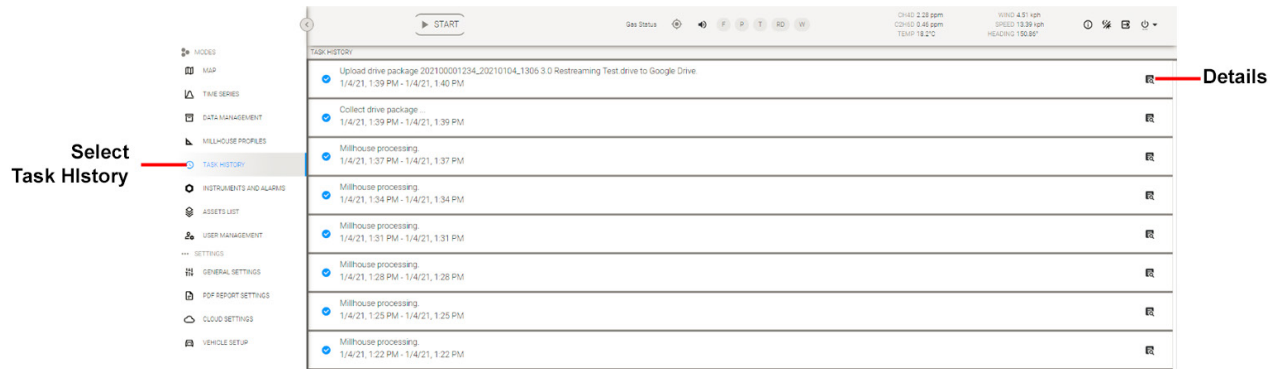
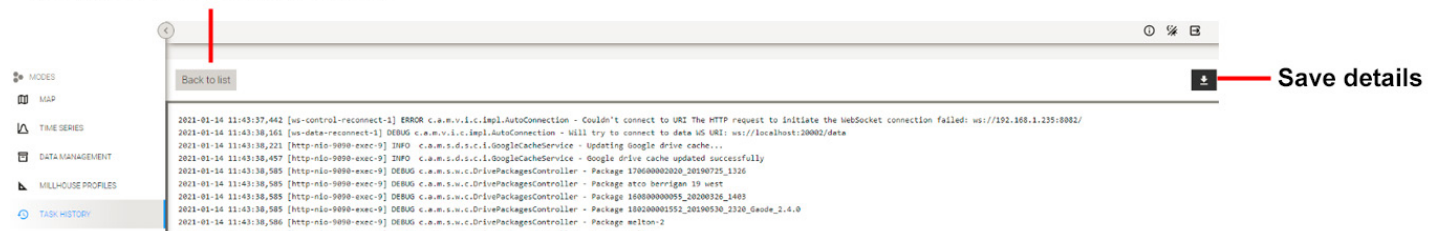

Figure 47 Task History Screen
Figure 48 Task History Details Screen
On the sidebar, select **Task History** to access the *Task History* screen (Figure 47) to see the status, details, and history of tasks performed.
- Click the **Details** icon (Figure 47) to see more details on the task: The screen shown in Figure 48 appears.
- Click **Back to list** to return to the *Task History* screen (Figure 47).
- The following are examples of task details shown in Figure 47: